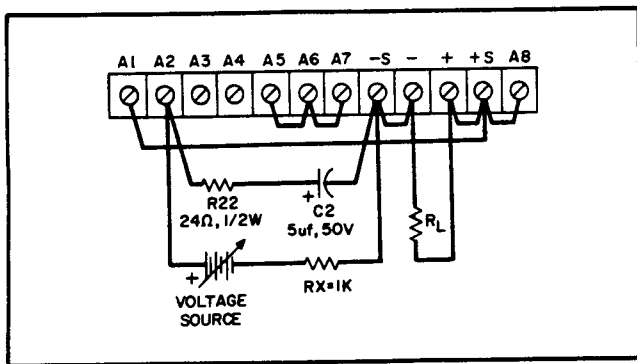

Figure 3-4. Remote Voltage Programming, Constant Voltage (Unity Gain)
3-46 Voltage Programming, Unity Gain (Figure 3-4). Employ the strapping pattern shown in Figure 3-4 for voltage programming with unity gain. In this mode, the output voltage will vary in a 1-to-1 ratio with the programming voltage (reference voltage) and the load on the programming voltage source will not exceed 20µA. Impedance matching resistor (RX) is required to maintain the temperature coefficient and stability specifications of the supply; resistor-capacitor combination R22-C2 is required to reduce ripple in the supply output.